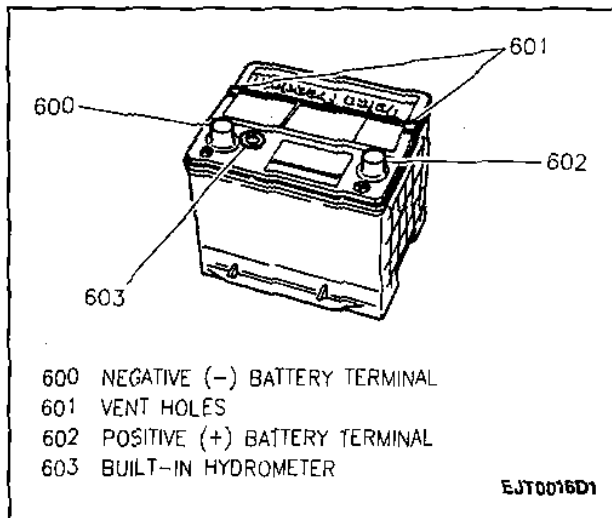

Figure 1—Sealed Battery
*Figures 1 and 2*
The sealed battery is standard on all Geo Tracker models. The battery is completely sealed except for two small vent holes located on the side of the battery (Figure 1). These vent holes allow the small amount of gas produced in the battery to escape.